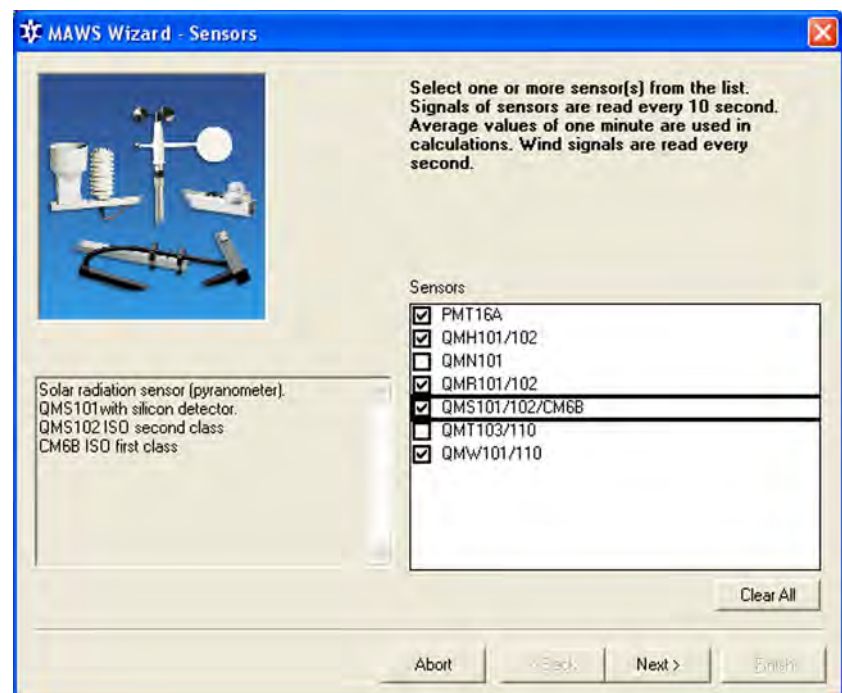

Figure 14 Selecting Sensors
5. In the first Wizard view, the **Sensors** view presented in Figure 14 on page 37, you can select the sensors you want for your setup. After selecting the sensors, click **Next** and Wizard will move to the next view.